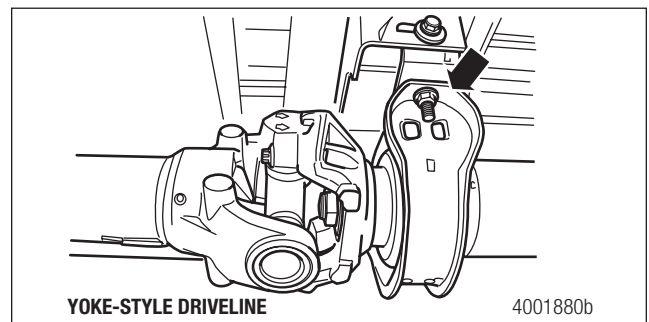
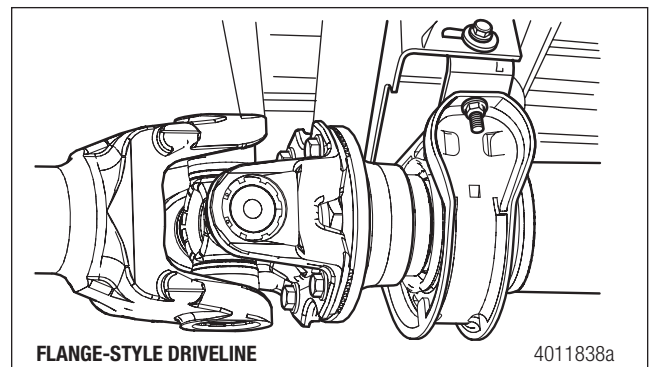

Figure 4.9
Figure 4.10
2. Inspect the center bearing bracket bolts for looseness. Figure 4.9 and Figure 4.10.